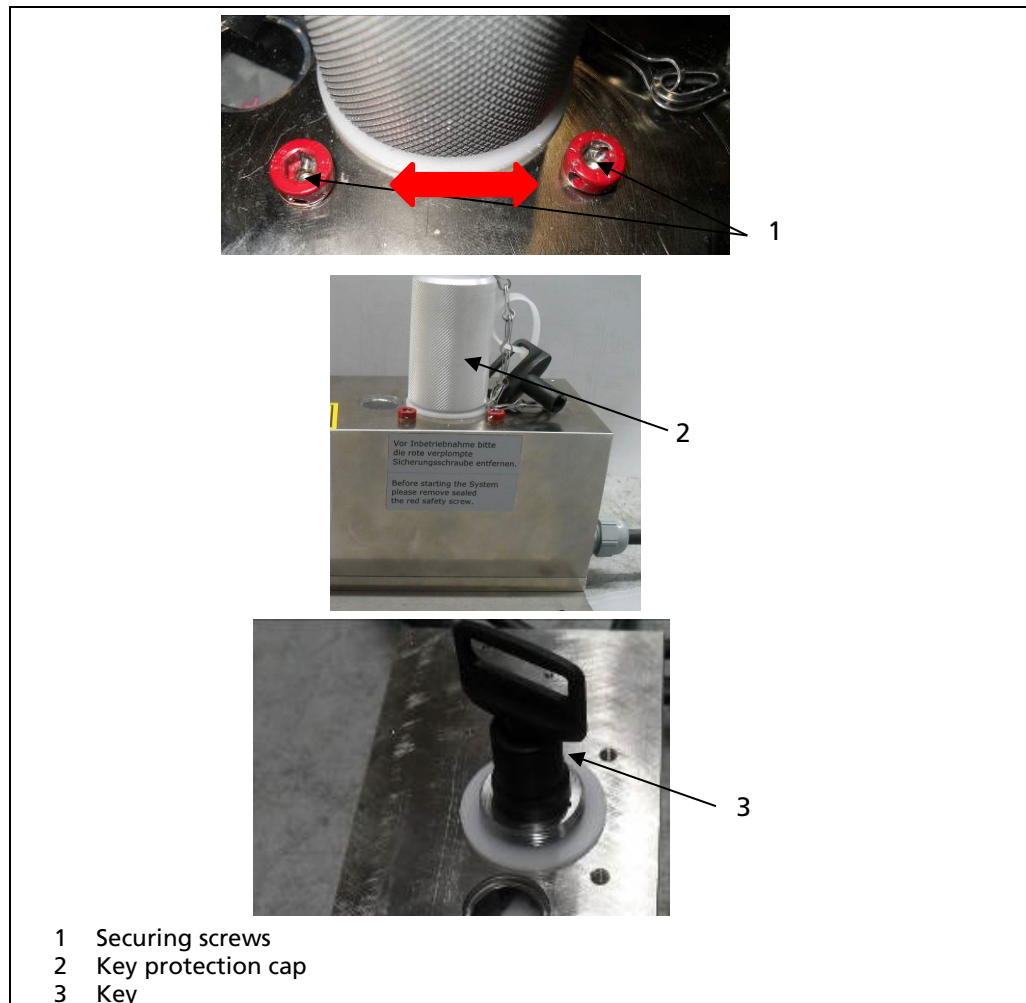

Fig. 11 Dismounting the shield
- ▶ The securing screws are mounted correctly. The long locking screw is fitted in the area of the viewing window, the short one in the area of the cable connection (Fig. 11, pos.1).
- ▶ Locking bolt (Fig. 11, pos. 3) is closed and the key protection cap is screwed back on.